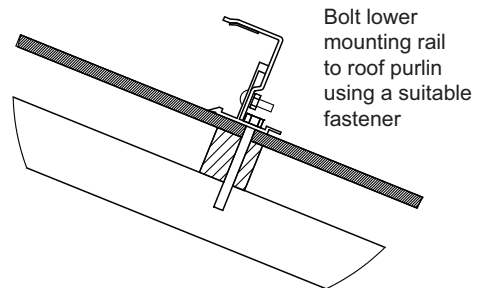

Figure 19 - Mount Lower Collector Rail
- Bolt the rail to the roof purlin using a suitable fastener as shown in **Figure 19**.